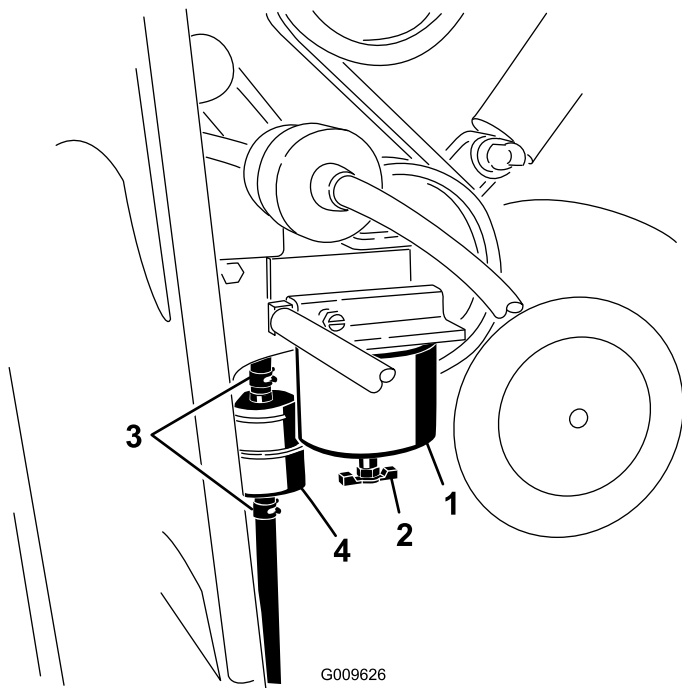

Figure 35
3. Locate the fuel filter on the right side of the engine (Figure 35) and place a clean container under it.
4. Locate the fuel filters on the right side of the engine (Figure 35) and place a clean container under it.
5. Clean the area where the filter canister mounts (Figure 35).
6. Remove the filter canister and clean the mounting surface (Figure 35).
9. Install the filter canister by hand until the gasket contacts the mounting surface, then rotate it an additional 1/2 turn (Figure 35).
10. Locate the in-line filter to the left of the fuel filter canister (Figure 35) and note the direction of flow arrow on the side of the in-line filter.
11. Open the clamps on each end of the in-line filter and slide the hoses off it (Figure 35). Discard the filter.
12. Slide the hoses over the end of a new filter (Figure 35), ensuring that the arrow on the filter is pointing toward the engine or electric fuel pump.